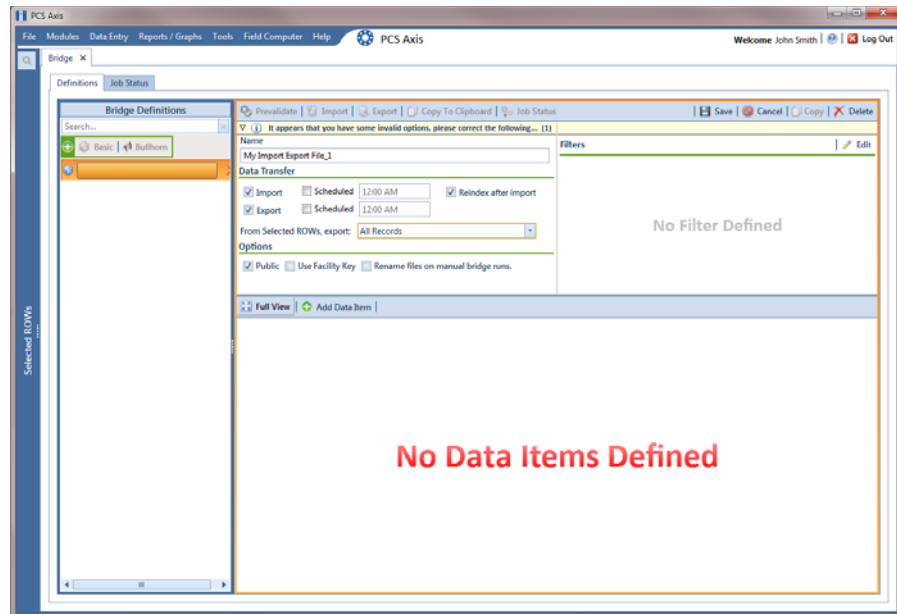

Figure 10-30. Bridge Import Export Definition
- 4 Type a unique name for the definition in the **Name** field (Figure 10-30, page 484).
- 5 To set properties in the *Data Transfer* group box, follow these steps (Figure 10-30, page 484):
- 6 To set properties in the *Options* group box, follow these steps (Figure 10-30, page 484):